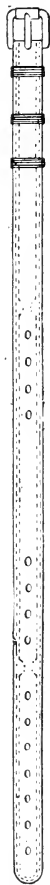

Fig. 190.
- Fig. 190.—Back-band.
The back-band (Fig. 190, p. 147) may now be cut out, its complete length being 8 ft. The centre piece passing through the saddle is 3 ft. 3 in. long, the strap or buckling end measuring 1 ft. 6 in., and the remainder being for girth. If it is for a van harness it must be in three thicknesses along the centre, but the strap end will be strong enough in two thicknesses ; when the belly-band part is very light it may also be thickened a little. Place the belly-band buckle in the belly-band end, and if necessary line the chape ; then round the point at the strap end. Crease all along and make two rows on each side of the centre, bringing them together in a point at the extremities. Strictly speaking, one row on each side of the belly band and strap will suffice, but four rows are better ; in the last case, crossing the two middle centre lines at the end of the centre part will improve the appearance.